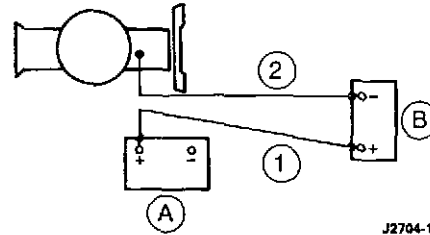

Fig. 16 — Correct Connections of Vehicle Booster Battery
NOTE: Use Fig. 16 for all applications. Vehicle and industrial use.
1. Position both vehicles close to but not touching one another so that the batteries are near each other (Fig. 16).
3. With both vehicle engines switched off, connect the positive (+) terminal of the booster battery to the positive (+) terminal of the flat battery with the red jumper lead (1) in Fig. 16.
4. Connect one end of the jumper lead #2 (black lead) to the negative (-) terminal of the booster battery. Connect the second end of the #2 jumper lead (black lead) to a clean, bare metal part of the engine to be started with the black jumper lead (2) in Fig. 16.